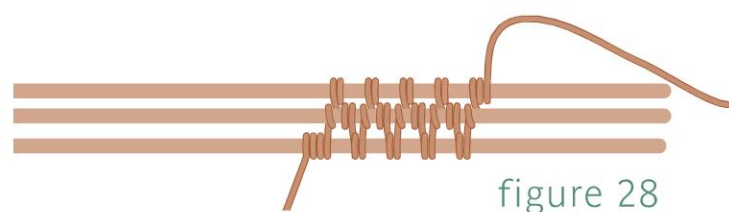

figure 28
- 8 Continue weaving, repeating Steps 4–7 (Figure 28). As you near the end of the frame wire, push the weave to the left to continue weaving.